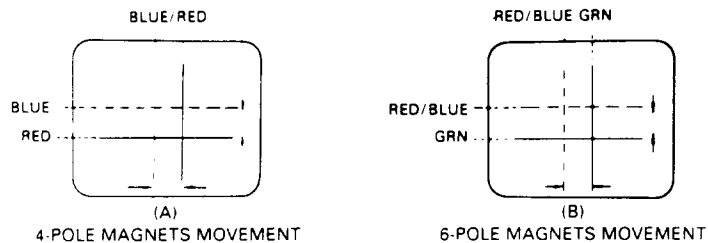

FIG. 1 CENTRE CONVERGENCE BY CONVERGENCE MAGNETS
- a. Locate the pair of 4 pole magnet rings. Rotate individual rings (Change spacing between tabs) to converge the vertical red and blue lines. Rotate the pair of rings (maintaining spacing between tabs) to converge the horizontal red and blue lines. (Refer to fig. 1 (A))
- b. After completing red and blue centre convergence, locate the pair of 6 pole magnet rings. Rotate individual rings (change spacing between tabs) to converge the vertical red and blue (Magenta) and green lines. Rotate the pair of rings (maintaining spacing between tabs) to converge the horizontal red and blue (Magenta) and green lines. (Refer to Fig. 1(B))